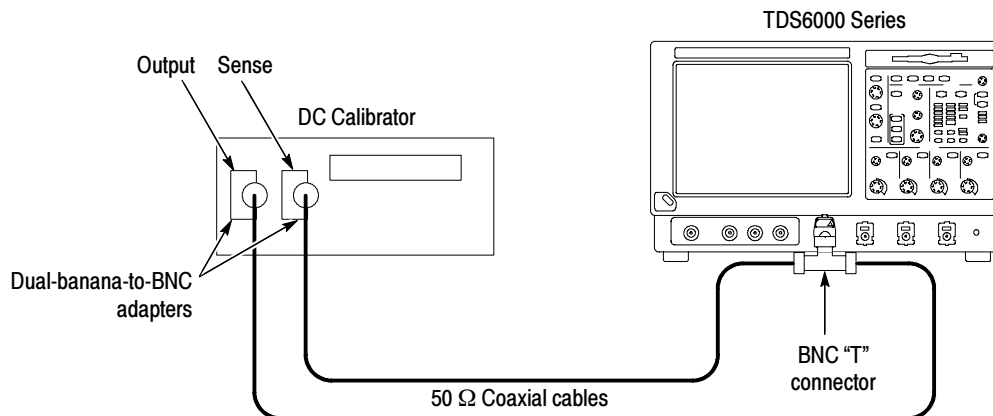

Figure 4-10: Initial test hookup
- Connect the output of a DC calibration generator through a dual-banana connector followed by a 50 Ω precision coaxial cable to one side of a BNC T connector. See Figure 4-10.
- Connect the Sense output of the generator through a second dual-banana connector followed by a 50 Ω precision coaxial cable to the other side of the BNC T connector. Now connect the BNC T connector to **CH 1** through an adapter. See Figure 4-10.